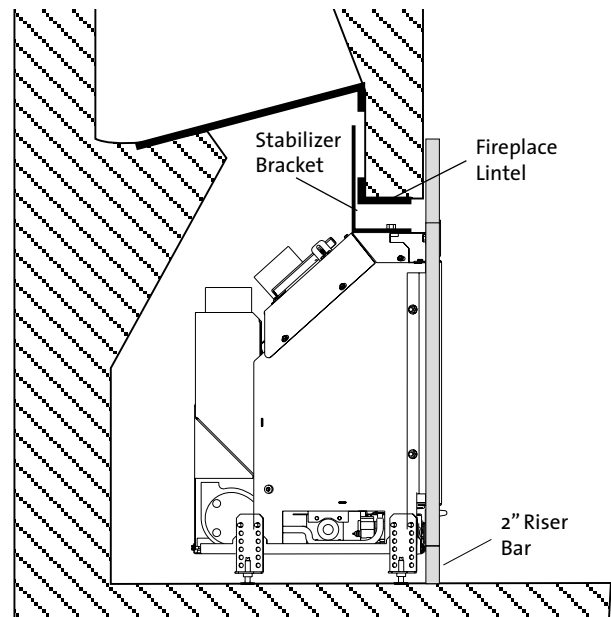

Figure 37. Installing the Stabilizer Bar.
RISER BAR: The 2" riser bar is used in conjunction with the standard cast iron surround, and is only needed in the event that the fireplace opening is between 27 1/2" and 29 1/2" high. The riser bar can be used in any installation if desired. See fig. 37.
1. If the riser bar is to be used, the insert must be lifted 2" off the floor of the fireplace to allow for the riser bar to fill the space below the bottom grill assembly. See fig. 37. Install the leveling legs to achieve the appropriate height.
NOTE: THE COMBINED WEIGHT OF THE CAST IRON SURROUND AND RISER BAR MAY CAUSE THE UNIT TO BECOME TOP-HEAVY. IN THAT CASE, INSTALL THE STABILIZER BAR THAT IS SUPPLIED WITH THE FIREPLACE. THE STABILIZER BAR ATTACHES TO THE TOP OF THE FIREBOX AND WILL BRACE THE UNIT AGAINST THE FIREPLACE LINTEL TO PREVENT THE UNIT FROM LEANING FORWARD. See figs. 37 and 38.
Note: the riser bar is not used for support of the insert- if more space is needed for the riser bar, raise the unit using the levelling legs. See figure 37 .